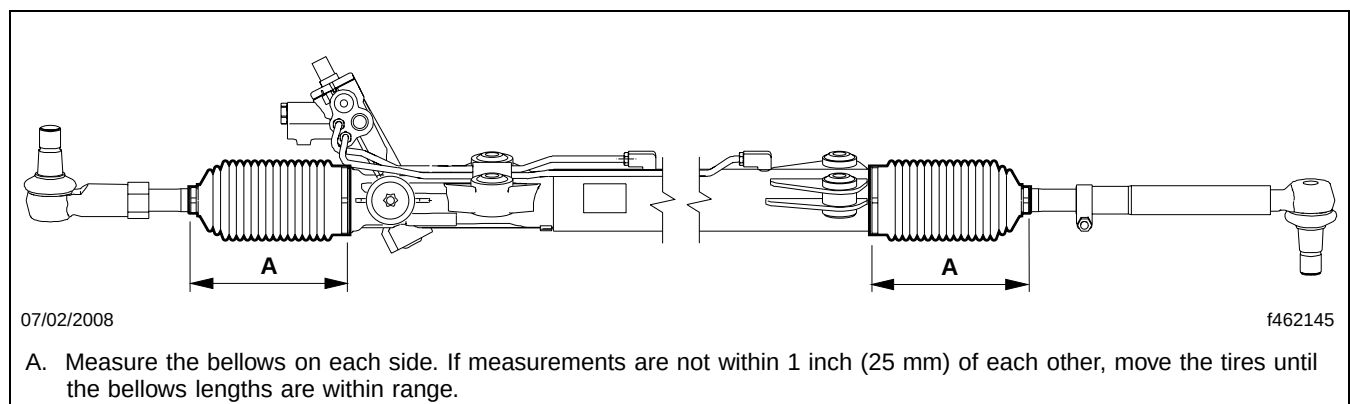

Fig. 11, Measuring the Tie Rod Bellows
- 41.1 Measure the length of the bellows from clamp to clamp on each side of the gear. See **Fig. 11**. If measurements are not within 1 inch (25 mm) of each other, move the tires until the bellows lengths are within range.